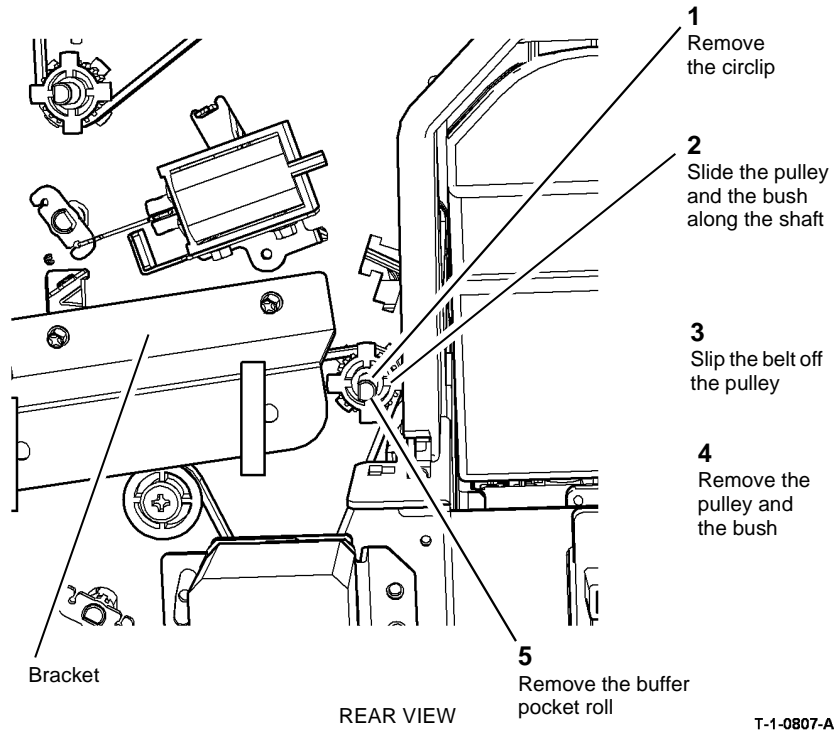

Figure 2 Buffer pocket roll removal
- At the rear of the HVF, remove the buffer pocket roll. The bracket can be moved if necessary, to improve access, (two screws), Figure 2.